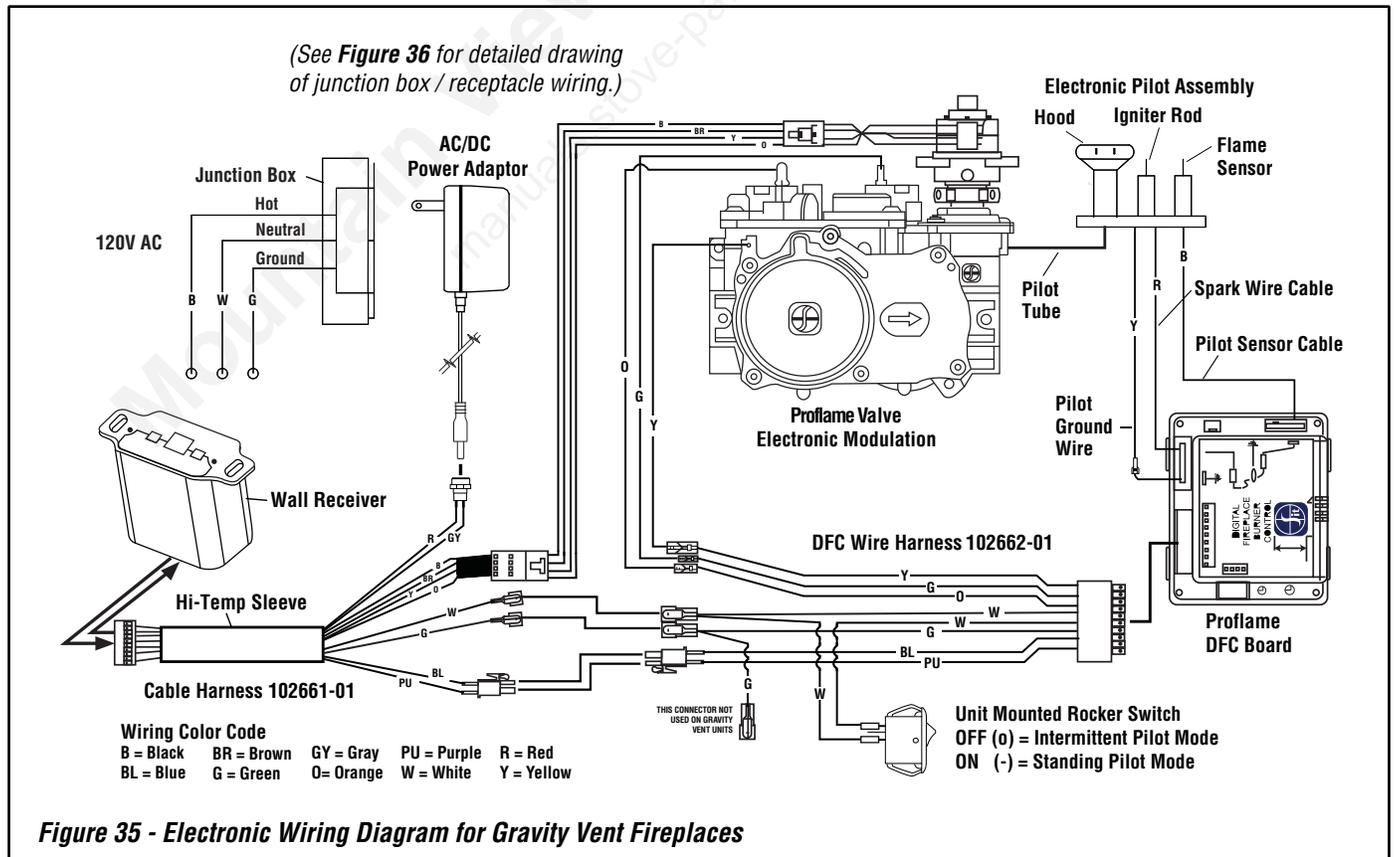

Figure 35 - Electronic Wiring Diagram for Gravity Vent Fireplaces
Ground supply lead must be connected to the wire attached to the green ground screw located on the outlet box. See *Figures 35 and 36*. Failure to do so will result in a potential safety hazard. The appliance must be electrically grounded in accordance with local codes or, in the absence of local codes, the National Electrical Code, ANSI/NFPA 70-latest edition.
(See *Figures 35 and 36*)
4. Connect the black power supply wire to the power outlet's red pigtail lead and the white power supply wire to the common terminal of the outlet as shown in *Figures 35 and 36*.